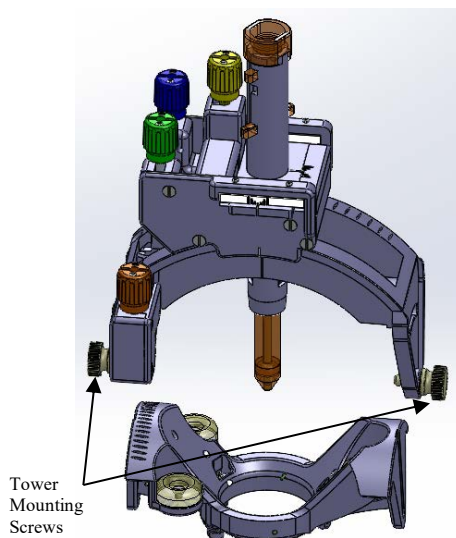

Figure 5a
8. Mount the Tower onto the Base by first loosening then grasping the Tower Mounting Screws. Grasp the Tower by the top rectangular gear housing. Align each screw with the mating grooves on the Base. **See Figure 5a.** Slide the Tower into place and ensure screws seat into the mounting holes on the Base